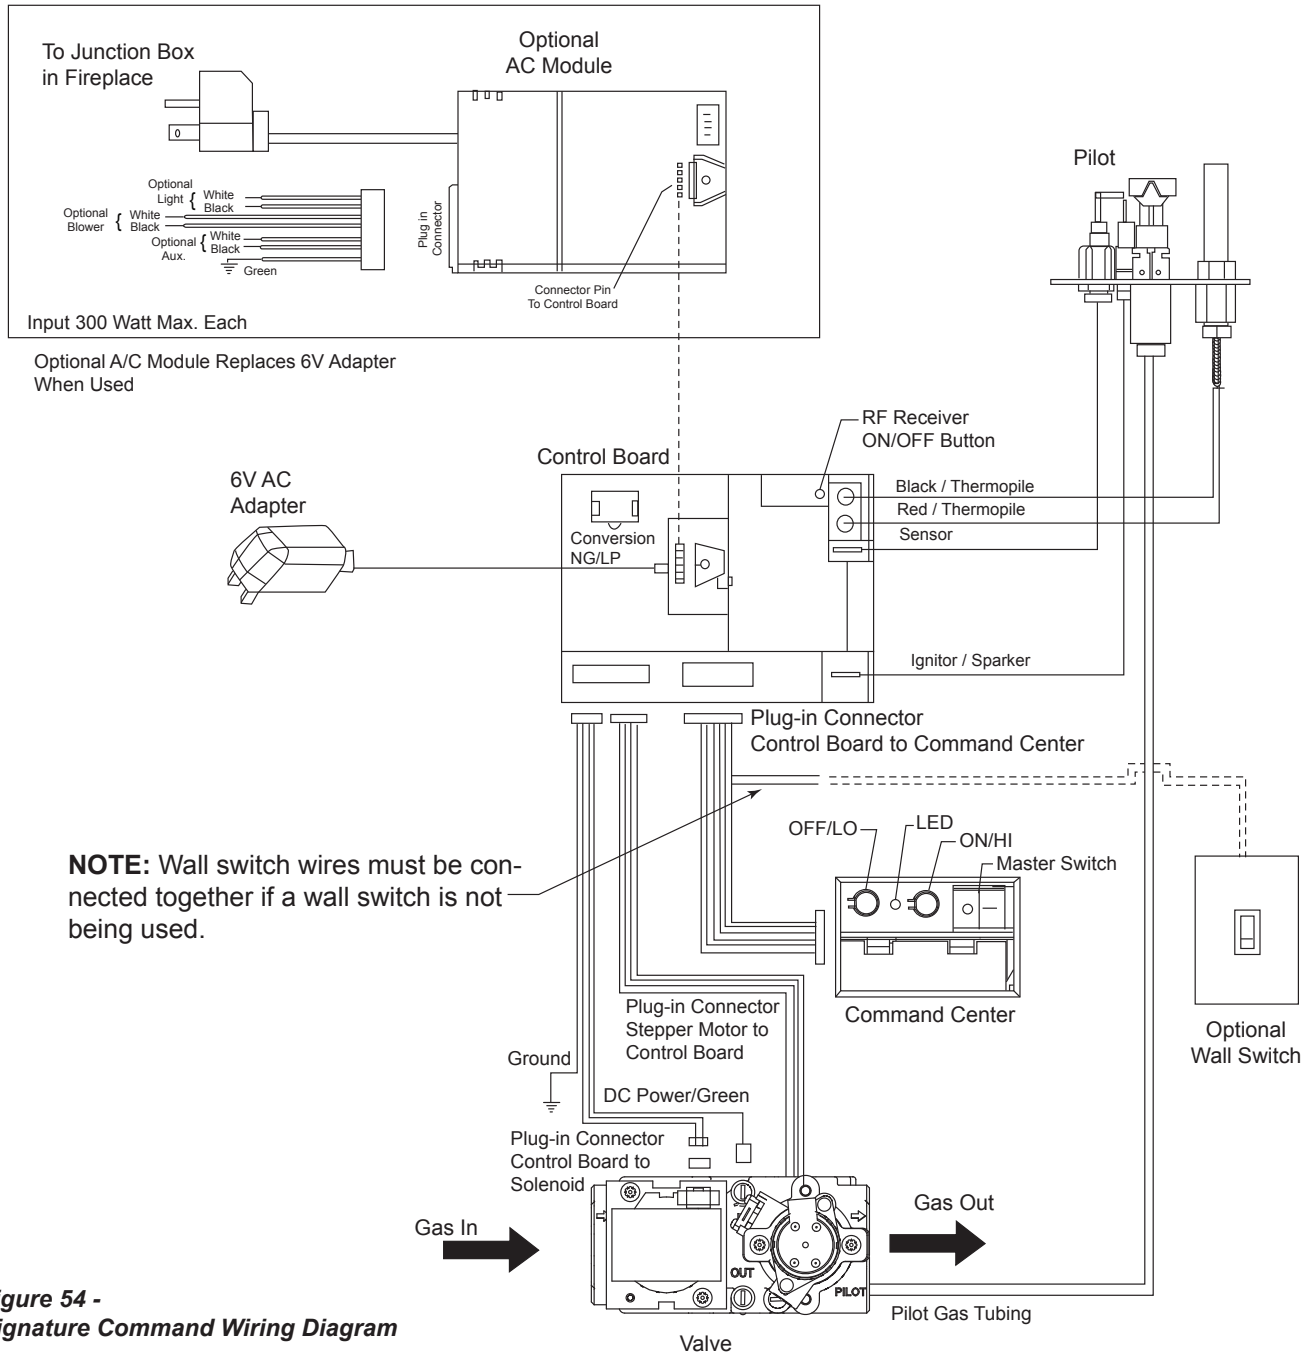

Figure 54 -
The wall switch wire connection is located off the 2 ft. wire harness from the control box to the command center. *Figure 54*. The connection is labeled “Wall Switch”. Unplug the male and female connectors and connect the two (2) low voltage wires provided. Run wire to desired location on wall. Up to 50 ft. of 18 ga. wire may be used if necessary. Attach wires to wall switch. Mount the wall switch in to junction box and screw on cover.